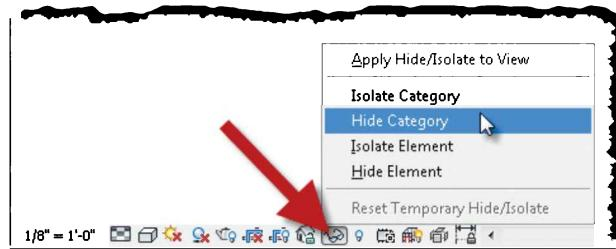

FIGURE 12-3.3 Hide/Isolate pop-up menu
You should see the menu shown in **Figure 12-3.3** show up next to the *Hide/Isolate* icon. This allows you to isolate an element, so it is the only thing on the screen. Or you can hide it, so the element is temporarily not visible.
11. Click **Hide Category** in the menu (Figure 12-3.3).